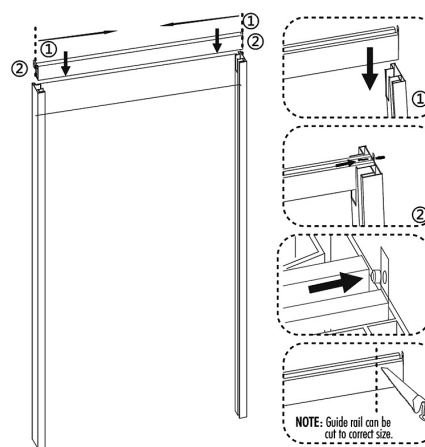

FIGURE 2
(See Figure 2). Place guide wall onto rail profile (1). Measure and mark position of wall block, then mount with screws (2).